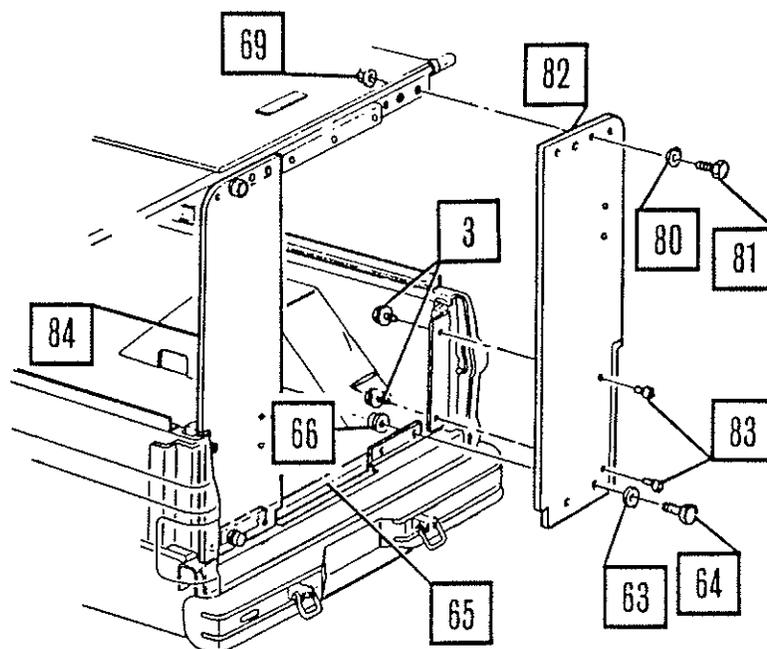

Figure 20.
69. Attach right and left rear side panel assemblies on upper outer holes with nut, bolt and washers (Figure 20.).
70. Attach panels to side brackets on right and left sides with "T" nuts and bolts (Figure 20.).
72. Install rear door seal molding by alining with existing holes in the floor insulator and using as a template, drill four  $13/32$  inch holes from the inside out in panel assemblies, and install nut and bolt in outer holes (Figure 20.).